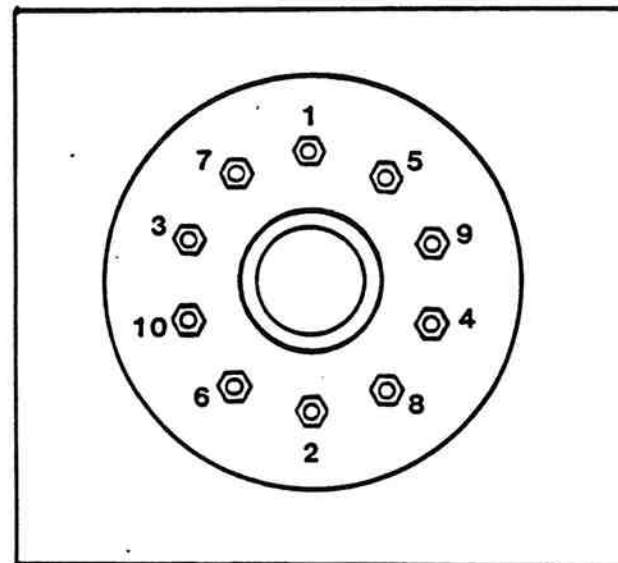

Figure 15-4. Stud Nut Tightening Sequence.
It is important that wheel stud nuts be tightened alternately on opposite sides of wheel. Refer to figure 15-4 for suggested sequence for tightening and follow this recommended procedure:
1. Run the stud nuts in lightly referring to figure 15-4 for sequence so that wheel will position itself concentrically with hub. This is important; otherwise, wheel may be eccentric with hub and will not run straight. In this initial step, run the nuts up only as necessary to correctly position the wheel.
2. Tighten stud nuts progressively as shown in figure 15-4 with an impact wrench.